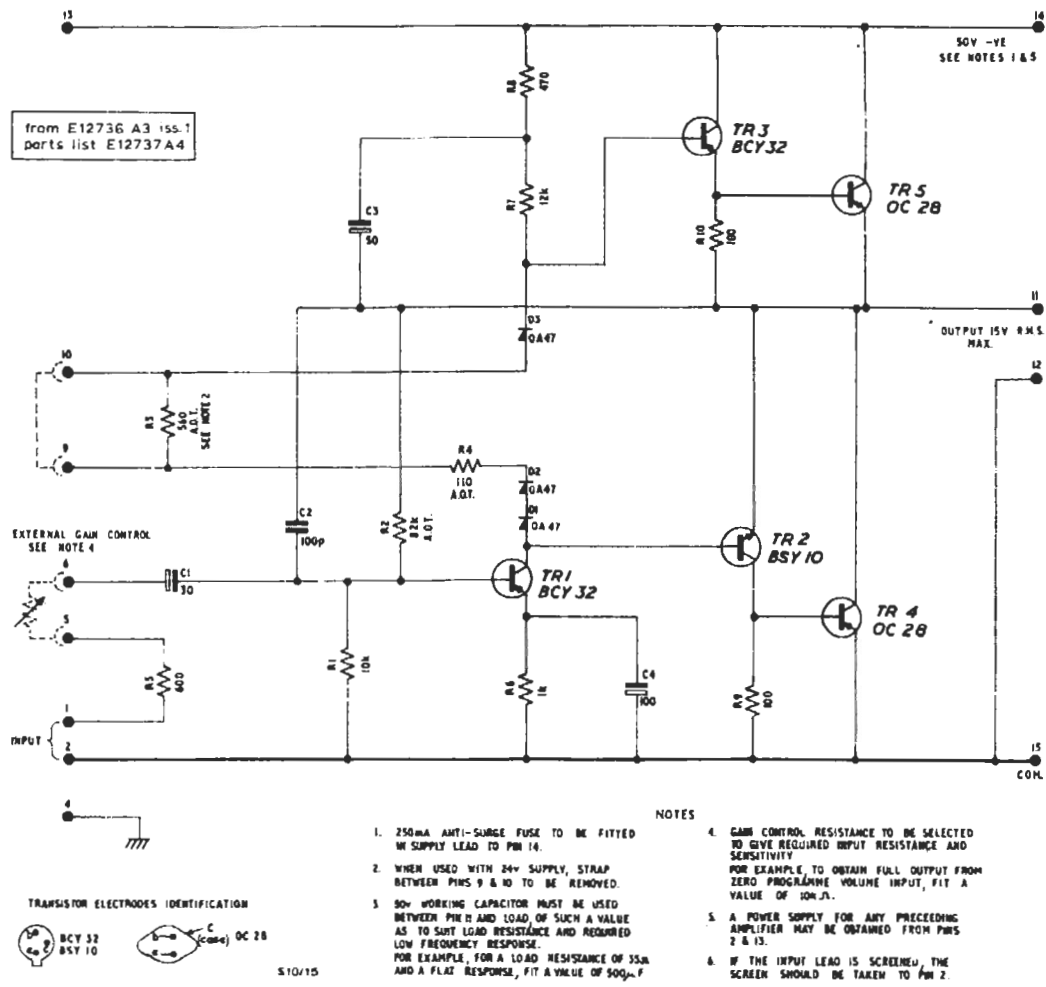

Fig. 5.1. Intercommunication Amplifier AM5/5: Circuit
The circuit, shown in Fig. 5.1, closely resembles the last two stages (TR4—TR8) of the Amplifier Type AM8/9, described in Section 8 of this Instruction.
When a 24-volt supply is used, less current flows in the TR1 collector circuit, and additional resistance is needed to maintain the same voltage difference between the bases of TR2 and TR3. This is the reason why a short-circuit across R3 is removed for 24-volt operation, as stated in Note 2 on Fig. 5.1. R4 is selected to obtain satisfactory operation from a 50-volt supply, and R3 is then adjusted to obtain satisfactory operation from a 24-volt supply.
*See overleaf for Fig. 5.1*